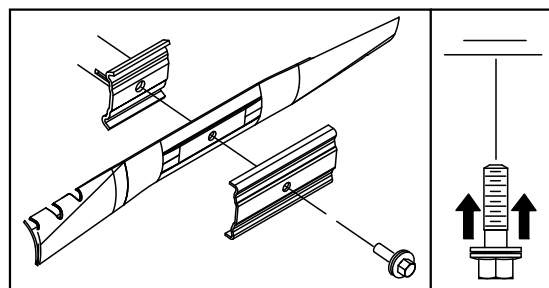

Figure 47
3. Use a block of wood to hold the blade steady (Figure 47).
4. Remove the blade, saving all mounting hardware (Figure 47).
5. Install the new blade and all mounting hardware (Figure 47).